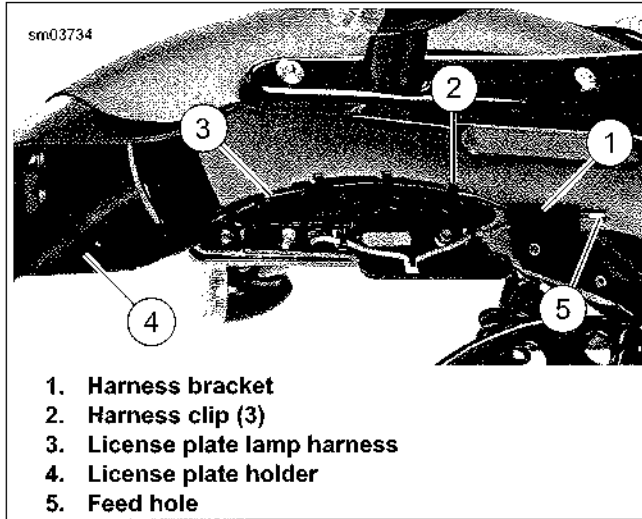

Figure 6-52. License Plate Holder and Lamp Harness Mounting: XL 883N, XL 1200X/V (HDI)
- See Figure 6-52. Remove license plate lamp harness (3) from harness bracket (1) and three harness clips (2). Feed harness and connector in through hole in rear fender.